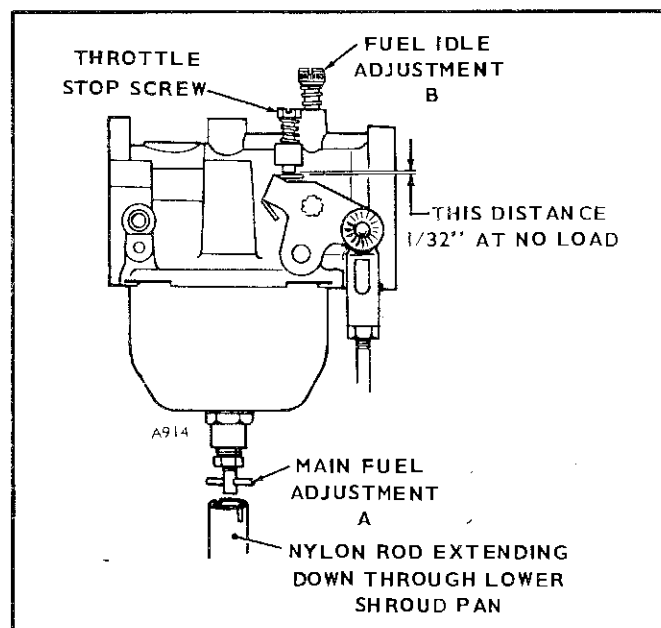

FIGURE 5. CARBURETOR ADJUSTMENTS
5. Check the float level with the carburetor casting inverted. See Figure 5.
The carburetor (Figure 5) has a high speed fuel main adjustment (needle A) and a fuel idle adjustment (needle B).
With the carburetor and governor adjusted, set the throttle stop screw, Figure 5, to allow 1/32 inch clearance to the stop pin with the engine operating at no load. This prevents excessive hunting when a large load is suddenly removed.